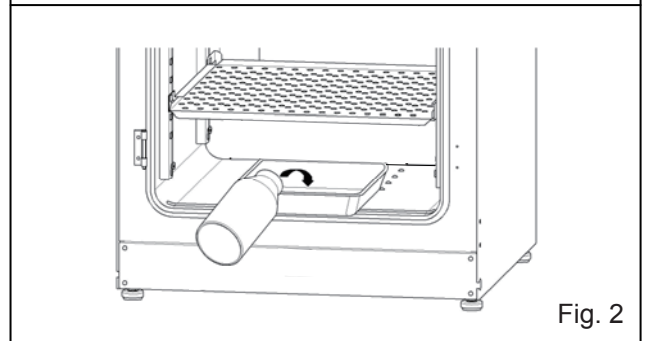

Fig. 2
4. Lift the front of the tray supports and pull them out. (See Fig. 2.)
5. (MCO-18AC(UV) or when an optional UV system kit MCO-18UVS3 is installed)
4. Return the humidifying pan to the chamber and add sterile distilled water (approx. 1.5 L, preheated to 37°C). (See Fig. 2.)